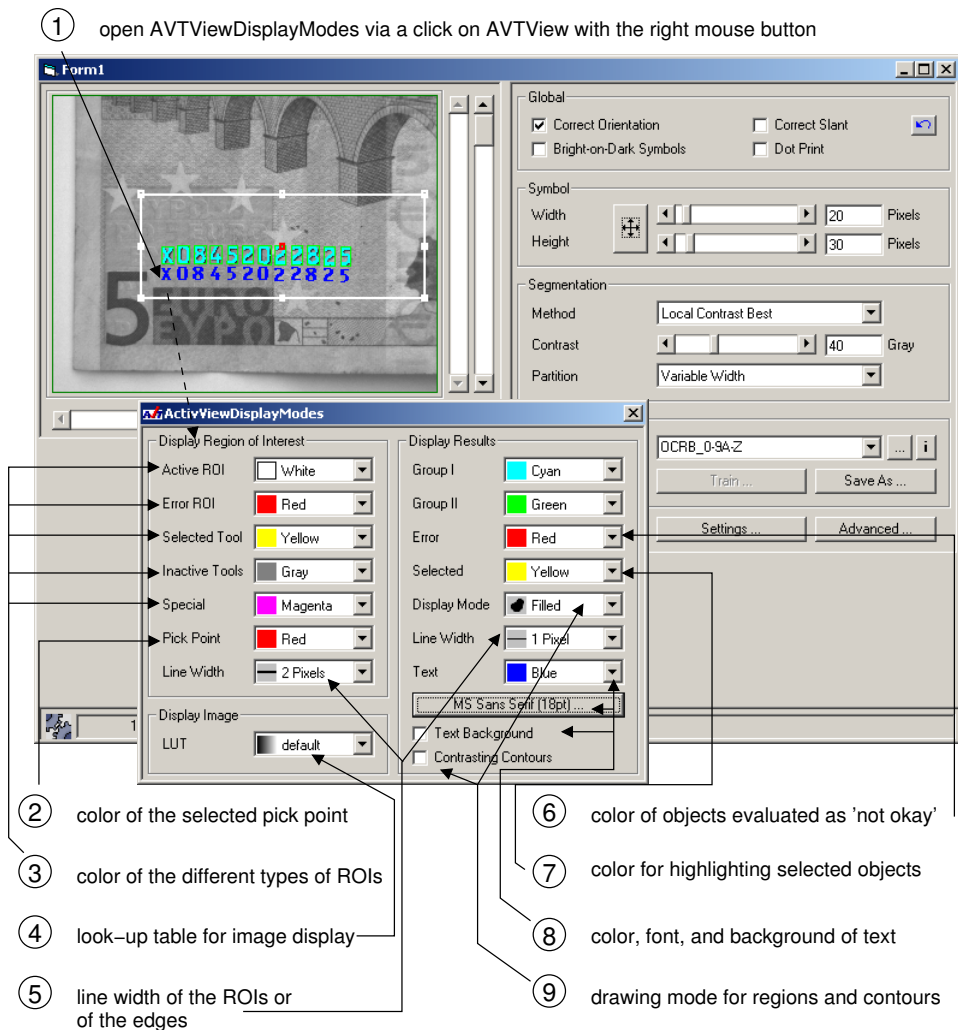

Figure 4.1: Adapting the display of ROIs and results.
- ☐ Execute the application (`Run > Start` or via the corresponding button) and load the image sequence `ocr\money1.seq`. If necessary, place an axis-aligned, rectangular ROI as shown in figure 4.1.
The following steps are visualized in figure 4.1. Experiment by choosing different settings for the display parameters and watching the result.